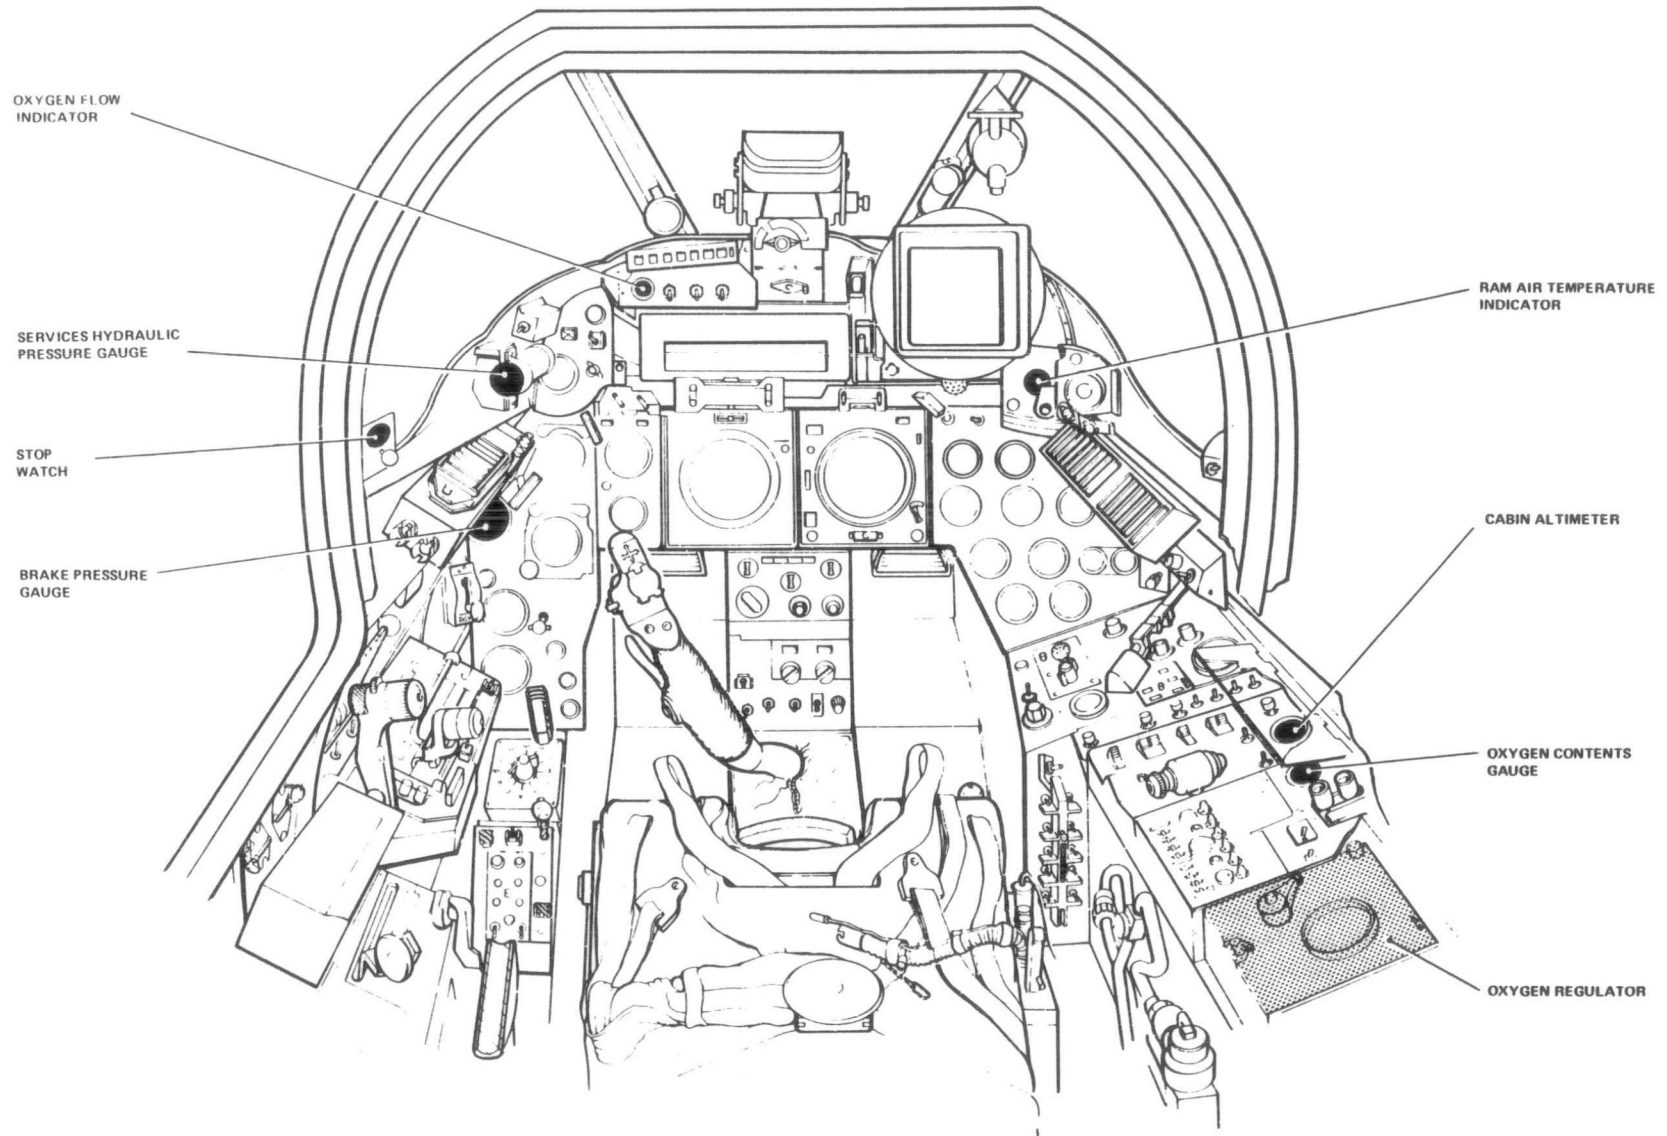

FIG.1.MISCELLANEOUS INSTRUMENTS-COCKPIT INSTALLATION
1. The information given in this chapter applies to the miscellaneous aircraft instrument installation. The location of those installed in the cockpit are illustrated in fig.1. Details relating to component type, location, means of access and the Air Publication, which contains more detailed information, are listed in Table 1. Table 2 contains information relating to the circuits regarding supply fuse numbers, rating coding and location.